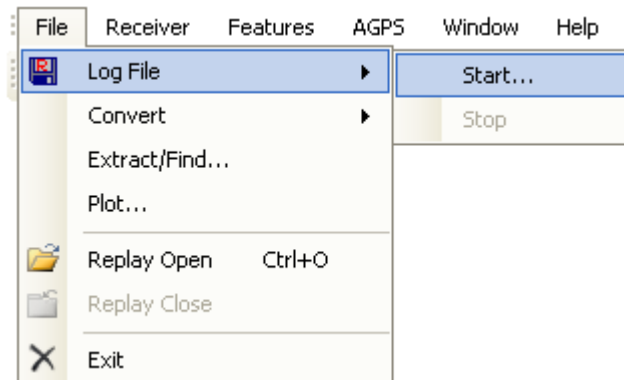

Fig 18: *Main Menu Bar* access to the Log File command.
1. While the receiver is outputting messages to SiRFLive, click on the *Log File* icon on the *Main Tool Bar* or go through the *Main Menu Bar* under “Log File” then “Start. . .” shown in Fig 18.